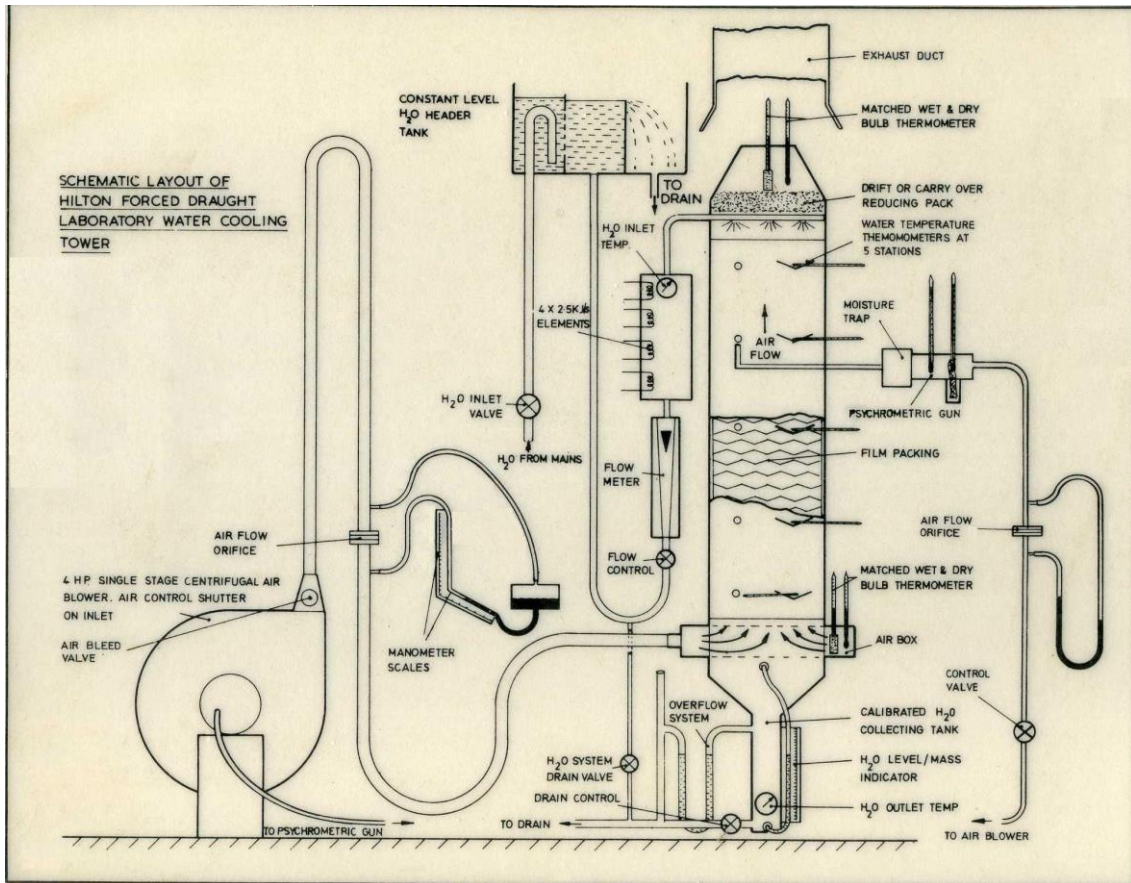

Fig. 3 Wet cooling water apparatus
1. According to Fig. 3, set the air blower shutter fully open and adjust the water flow control to obtain maximum water flow rate.